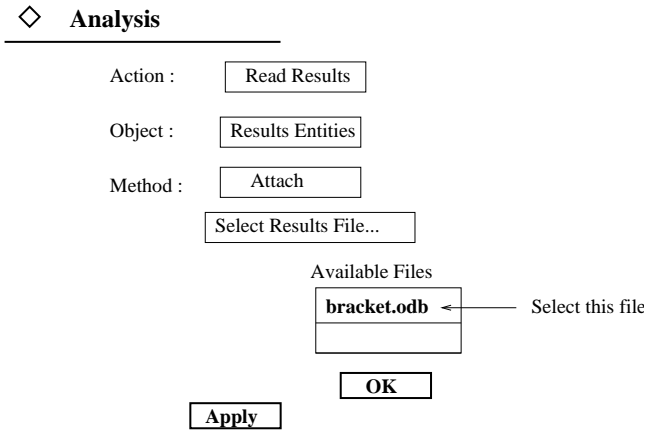

Figure 33: Attach to the ABAQUS Output Database
- The form is shown in **Figure 33**.